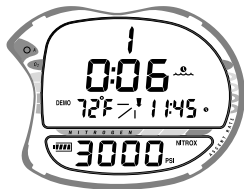

Fig. 81 -Simulated Descent
- Press and hold the Select (Bottom) button for 2 seconds to access **Demo Dive Mode**. The **DOWN Arrow** will appear flashing (Fig. 81).